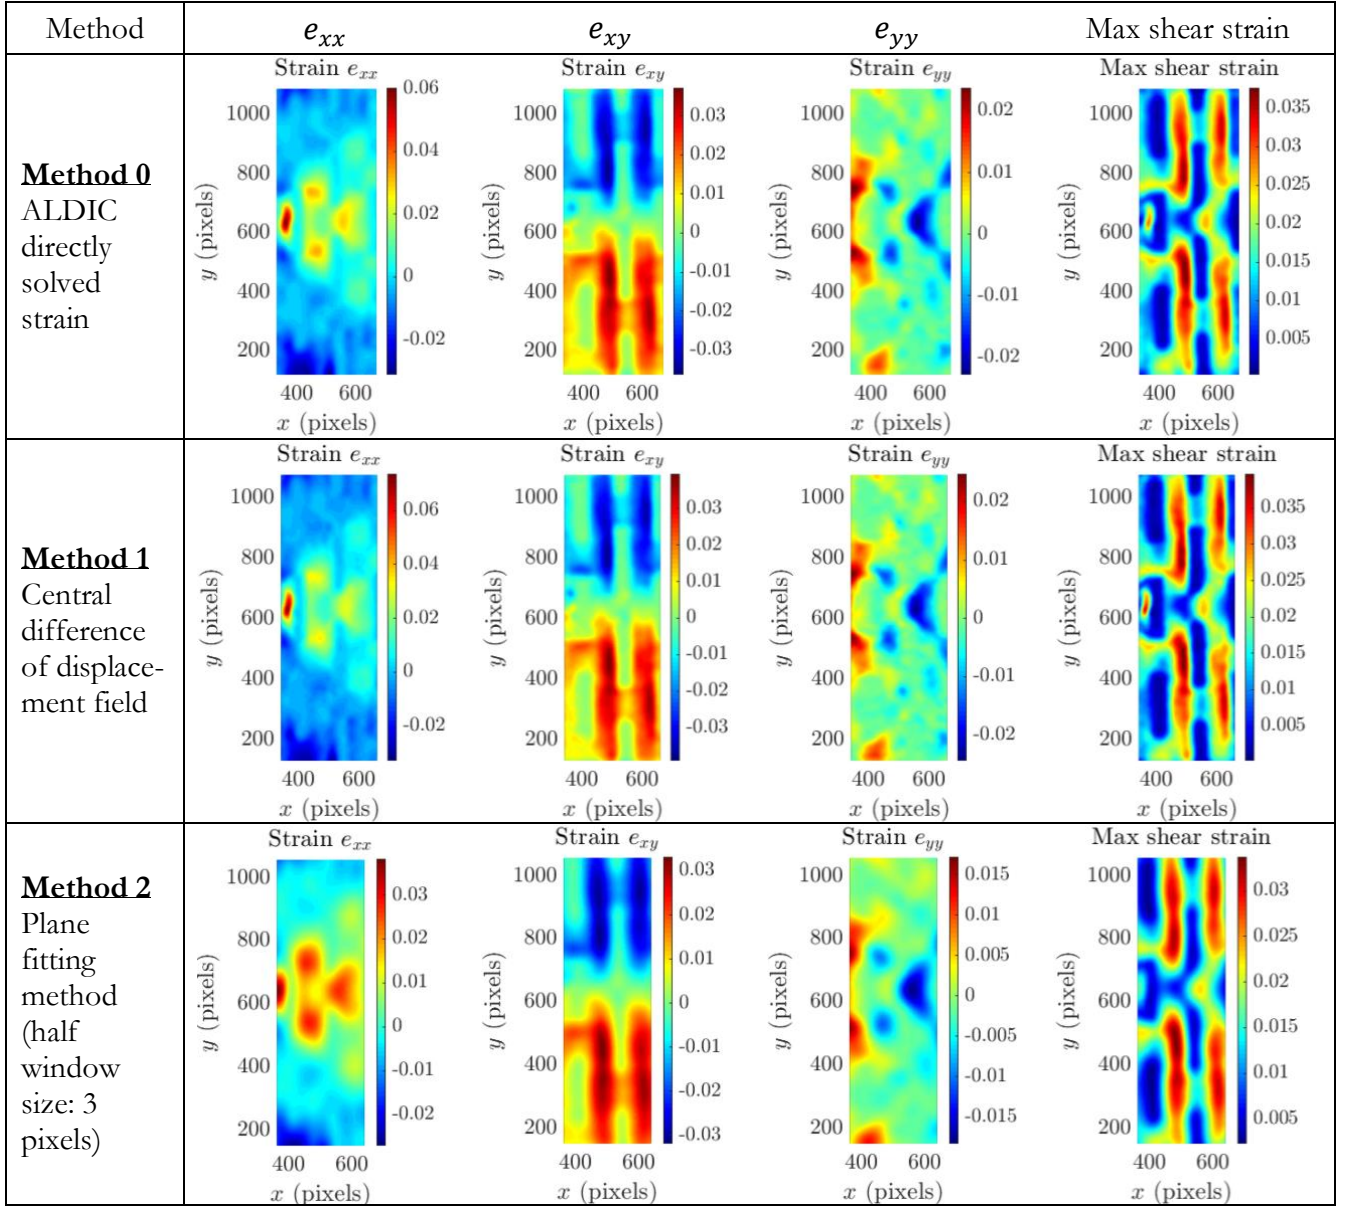

Figure 11. Solved strain fields by ALDIC method.
E.g., different methods to compute strain fields of our example are shown in Figure 11, and results of multi-frames in our heterogeneous fracture example are stored in “./results\_frac\_heter/”.